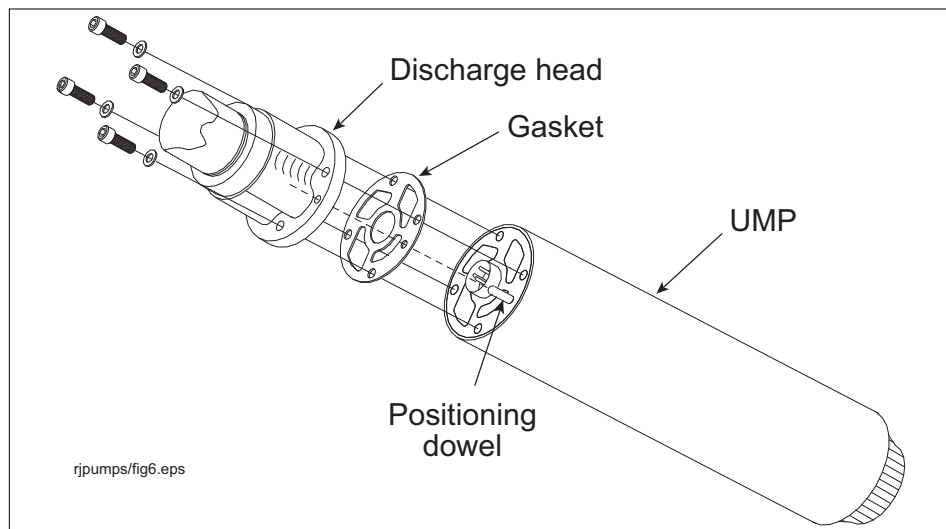

Figure 6. Aligning The UMP GASKET
2. Place the new gasket on the new UMP so that all holes align (see Figure 6).
4. Install the UMP retaining bolts and lock washers (see Figure 6). Snug and then torque the bolts using a cross-pattern technique to 7 ft-lbs (11 N•m).